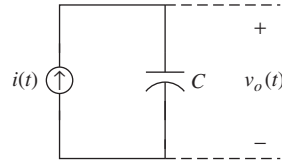
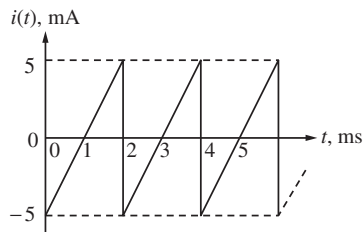
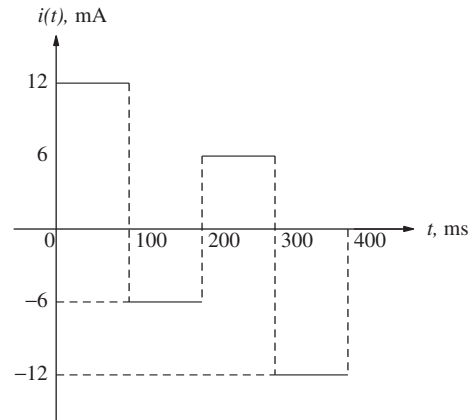

Figure P9.31 A current applied to a capacitor.
Figure P9.33 Sawtooth current applied to a capacitor in problem P9-33.
Figure P9.35 Current applied to a capacitor for problem P9-35.
9-31. A current $i(t) = 50e^{-5t}$ mA is applied to a capacitor $C = 1000 \mu\text{F}$ shown in Fig. P9.31.
- 9-33.** The sawtooth current $i(t)$ given in Fig. P9.33 is applied to a $250\ \mu\text{F}$ capacitor as shown in Fig. P9.31. Sketch the voltage $v(t)$ across the capacitor knowing that $i(t) = C \frac{dv(t)}{dt}$ or $v(t) = v(0) + \frac{1}{C} \int_0^t i(t) dt$. Assume that the capacitor is completely discharged at $t = 0$ (i.e., $v(0)$ is 0 V).
- 9-35.** A current $i(t)$ given in Fig. P9.35 is applied to a capacitor of $C = 96\ \mu\text{F}$ as shown in Fig. P9.31.